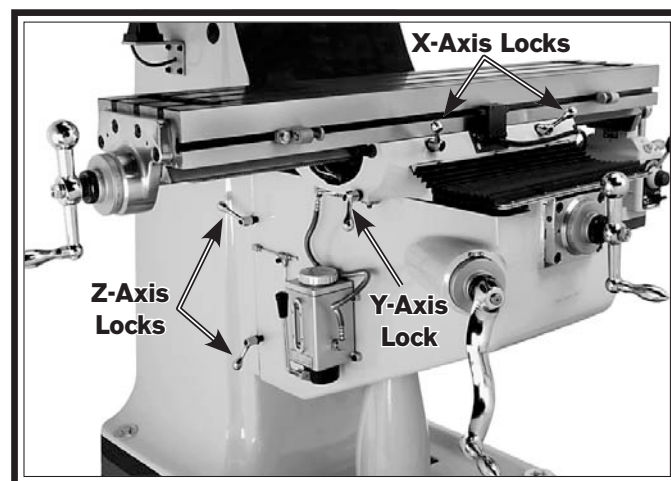

Figure 19. Locations of table locks.
Refer to **Figure 19** for the locations of the locks used to secure the table in place.
1. Loosen the X-axis table locks (refer to **Figure 19** on **Page 30** for locations).